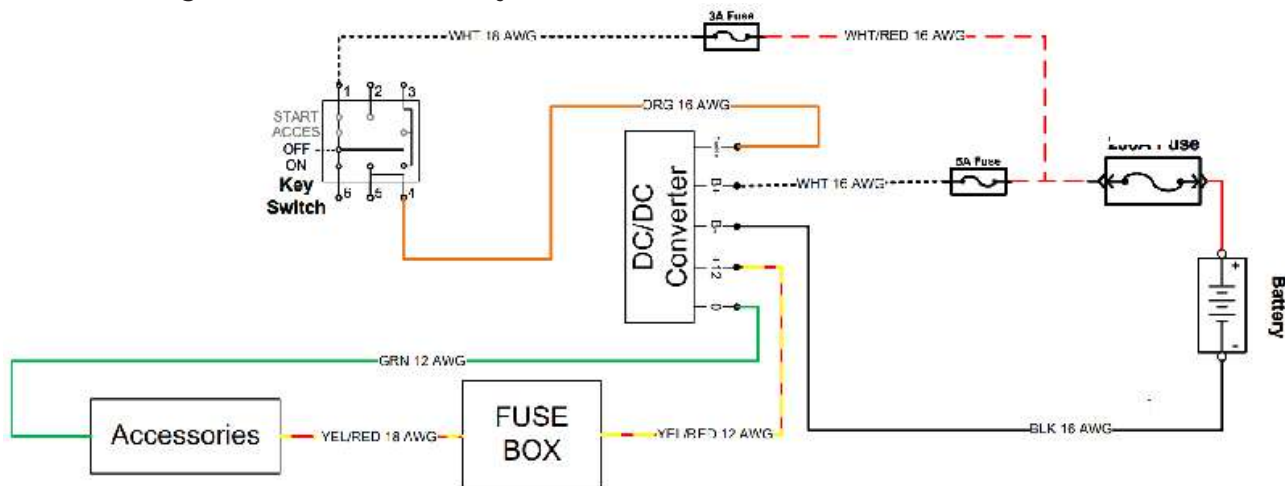

Figure 54. DC/DC Converter Input and Output Terminals Inspection.
2. 1. Check for the presence of voltage between the positive terminal (**B+**) (White Wire) and the negative terminal (**B-**) (Black Wire) of the DC/DC converter (As shown in Figure 54).
2. 2. Check for the presence of voltage between the orange wire and the negative terminal (**B-**) (Black Wire) of the DC/DC converter (As shown in Figure 54).
3. 1. Check for the presence of voltage between the yellow/red wire and the green wire of the DC/DC converter (As shown in Figure 54).